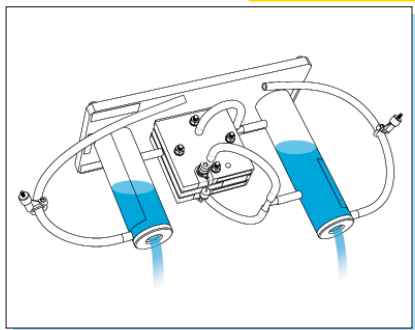

Fig. 5: Draining the water
- Drain the water from the gas storage tanks, as shown in figure 5.
Figure 5 is an example only and is applicable to both models. The work steps are identical.